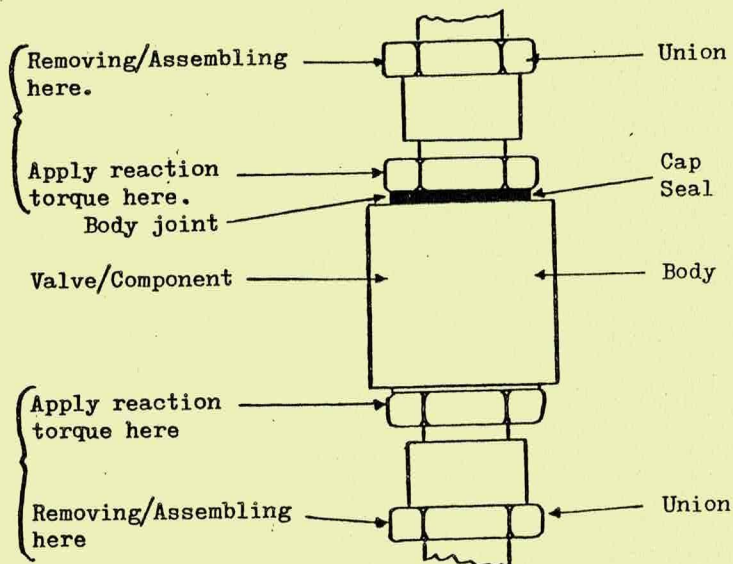

FIG 2
28. Removal/Refitment of Component/Pipe Unions There have been cases of Airborne fires which have been attributed to fluids leaking from Component/Unions in the Lightning Aircraft. The cause of some fluid leakages (in particular from flap up line restrictor 27Q/71002) has been the loosening of component body joints due to insufficient or zero reaction torque loads being applied when assembling or disconnecting the connecting unions. Tradesmen should ensure that when assembling or disconnecting unions, reaction torques (where possible) should be applied to prevent any body joints loosening. (Fig 2).